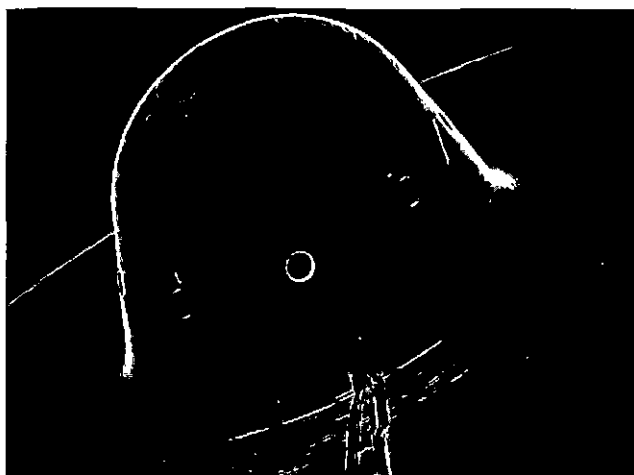

Fig. 2-8, (F60293). Injector cup tip before wire brushing
6. The effect of using a rotary wire brush is shown in Fig. 2-8 thru 2-11.